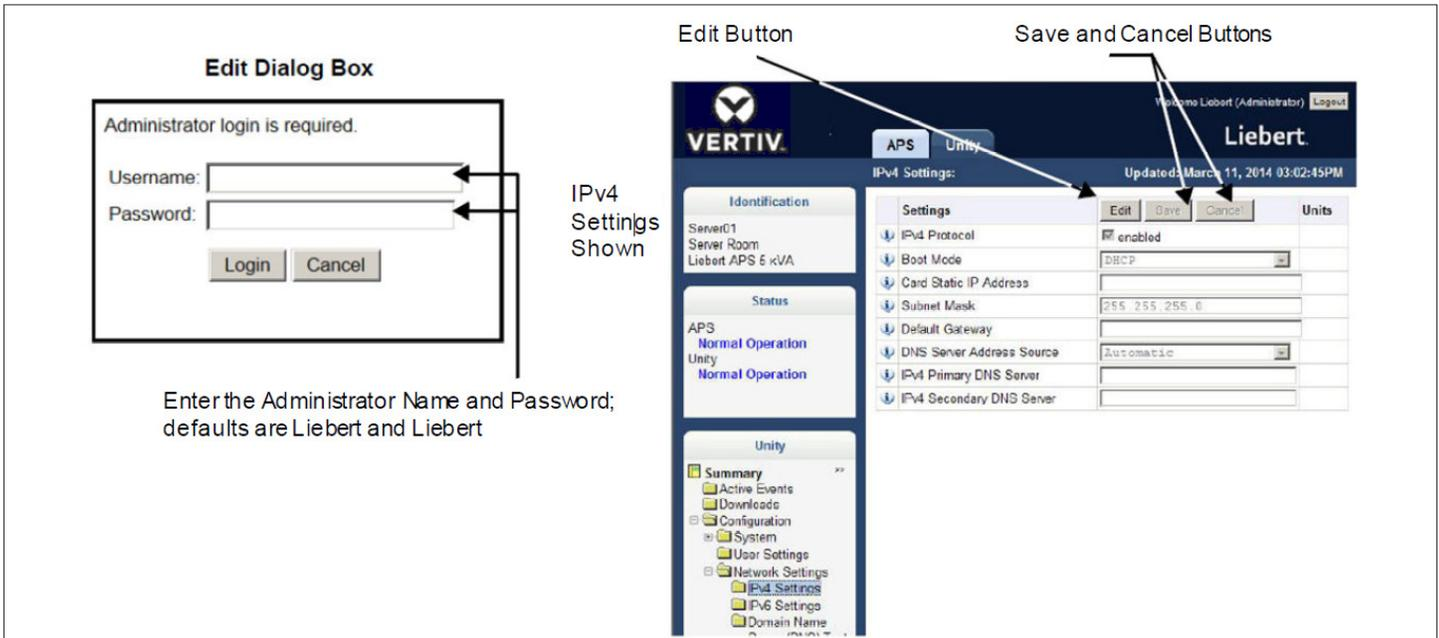

Figure 5-7 Enabling the Communication Protocol—IPv4 or IPv6
3. Click on Save to confirm the changes or click on Cancel to discard them. The changes will take effect after the card is restarted, refer Figure 5-7 for better understanding.